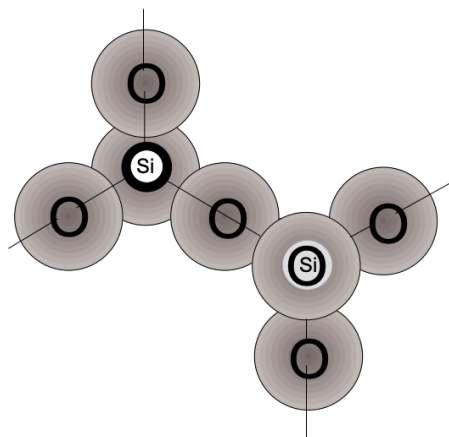

Figure 4 Basic Si - O - Si - units as established with sp^3 hybridization of Si
Upon cooling of liquid "glass" we observe that $\Delta V/\Delta T$ (the contraction with lowering of T) changes. This may be seen by following the three basic steps in the production of glass: (1) the melting of quartz sand (minute crystals of silica), (2) the shaping of the glass while in a viscous state and (3) the controlled cooling of the shaped article. The SiO_4 tetrahedra in the sand (crystals) are arranged in an ordered pattern (fig. 4), but in the molten state the crystal matrix breaks up into strings and rings of tetrahedra in irregular patterns (fig. 5). Because the temperature is very high, the groupings continually break up and reform, making the mass fluid.